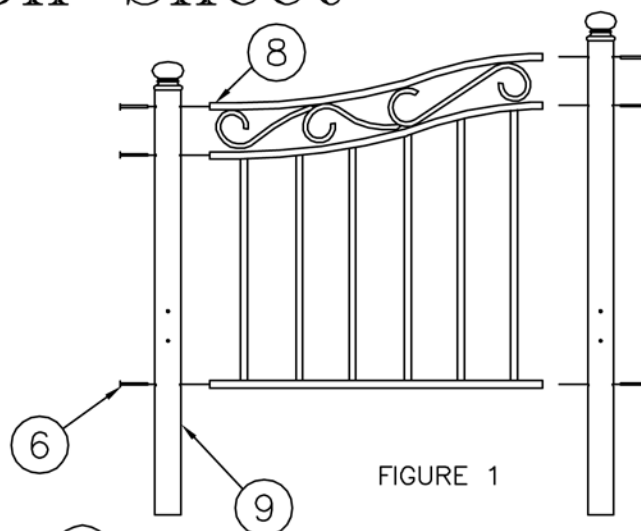

FIGURE 1
Align side panel rail ends (8) to holes in posts (9). (Long post is for back and short post is for front). Insert screws (6) thru holes on opposite side of post into side rail ends. Repeat with other side panel. (See Figure 1)